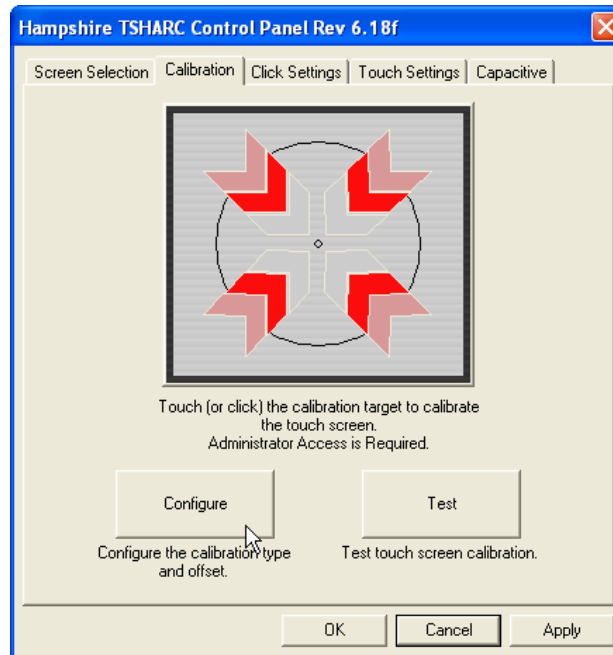

Figure 24: Calibration Target
1. Click/touch the calibration target seen in Figure 24 to begin calibration routine.